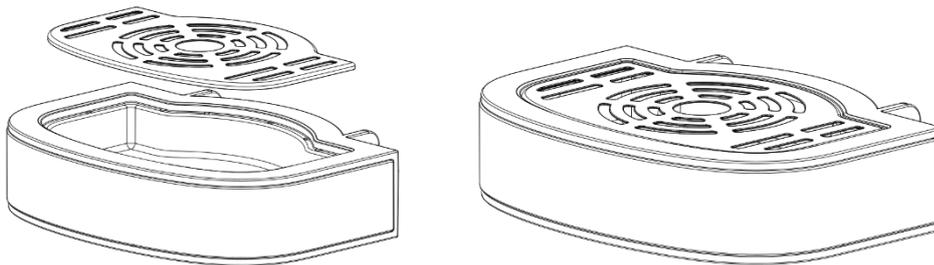

Figure 3
1. Place the drip tray plate on top of the drip tray, ensuring it is placed in the limit groove, without lifting or reversing (see Figure 3).